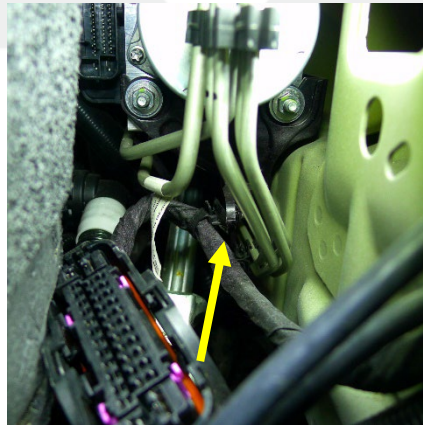

Figure 32
27. Fasten the clip that attaches the electrical harness to the HCU bracket (Figure 32).